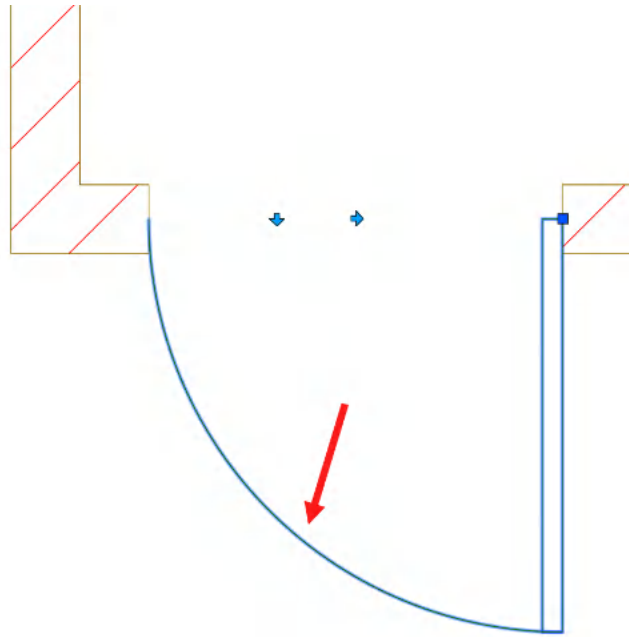

Figure 11.34: The Door-DYN dynamic block flipped using the flip grips
7. Click on each *flip grip* once (once on the vertical, once on the horizontal), and the dynamic door block will adjust accordingly, as shown in *Figure 11.34*.